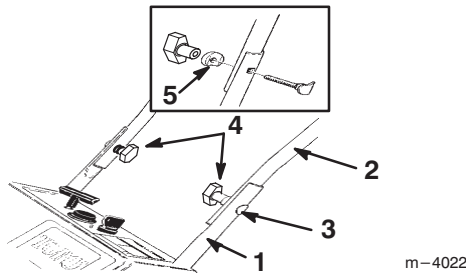

Figure 3
1. Position the ends of the upper handle on the inside of the lower handles and align the holes (Fig. 3).
2. Secure the upper handle to the lower handle using oval head bolts, curved washers, and knobs (Fig. 3).
Note: Ensure that you properly align the oval head bolts and the curved washers (See inset in Fig. 3).